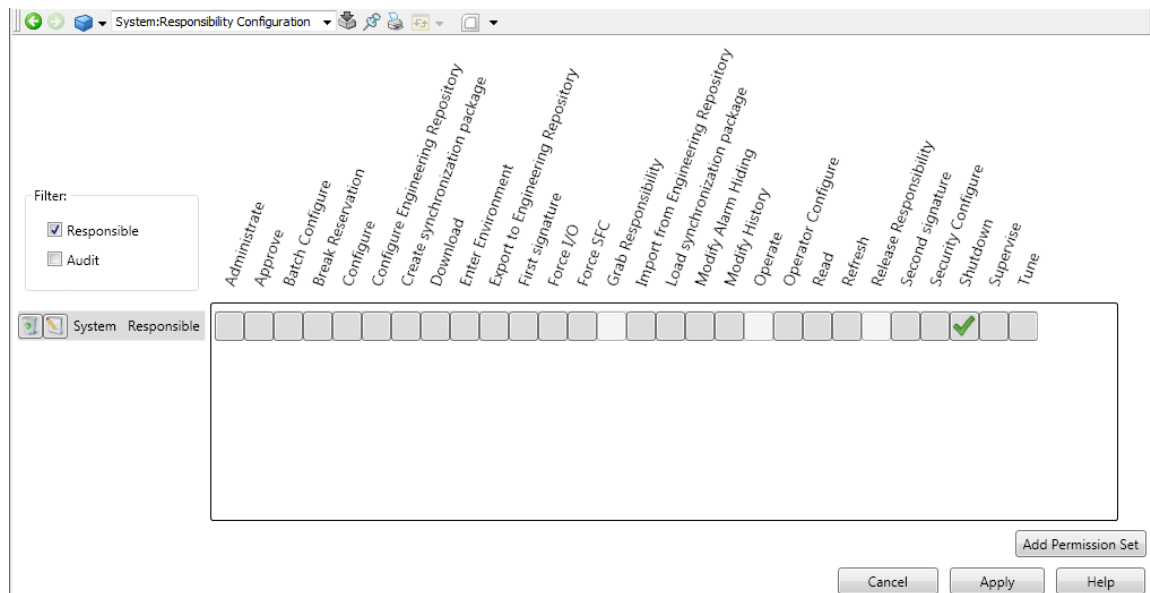

Figure 132. Configure Permissions
7. To configure the Permission Set, select the necessary permissions from the grid, for example, select **Shutdown**, refer to Figure 132.